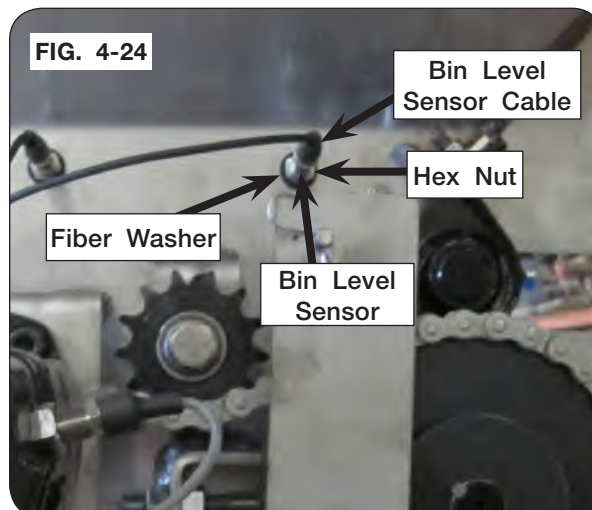

FIG. 4-24
5. Outside of the box, attach bin level sensor to the panel using fiber washer (9008810) and remaining hex nut. (FIG. 4-24)
6. Plug bin level sensor cable (9009180) into bin level sensor and connect other end of cable to wiring harness. (FIG. 4-24)